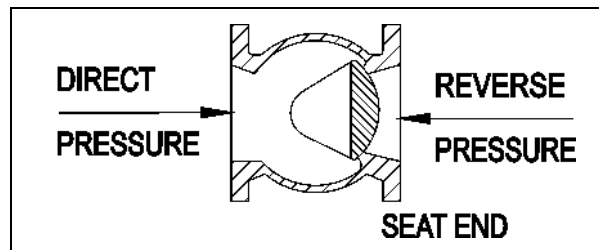

Figure 3 – Pressure Direction
Direct Pressure - When the higher pressure is at the end opposite the seat. See Figure 3.
Reverse Pressure - When the higher pressure is at the seat end of the valve. See Figure 3.
4. Close the valve with the pressure specified in Table B for the appropriate size and pressure direction—See Figure 3.